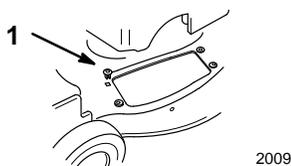

Figure 33
- Install four grommets supplied with the grass catcher into the four square holes in the mower (Fig. 33).